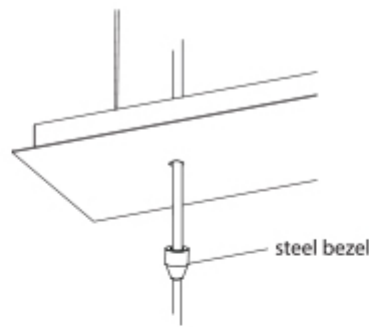

Figure 8
11. Slip one of the steel bezels over the cord of your first pendant and then feed the cord through the corresponding cover plate opening. (Figure 8)